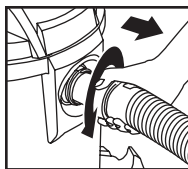

FIGURE 22
30. Unscrew hose locking-nut and remove hose from inlet. **FIGURE 22.**